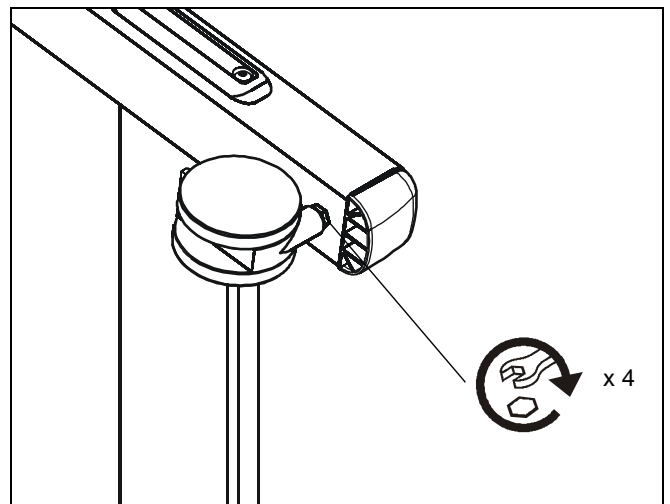

Figure 13
3. Check and tighten the hex nuts on the casters occasionally. (See Figure 13) These should be checked especially after use on uneven ground.